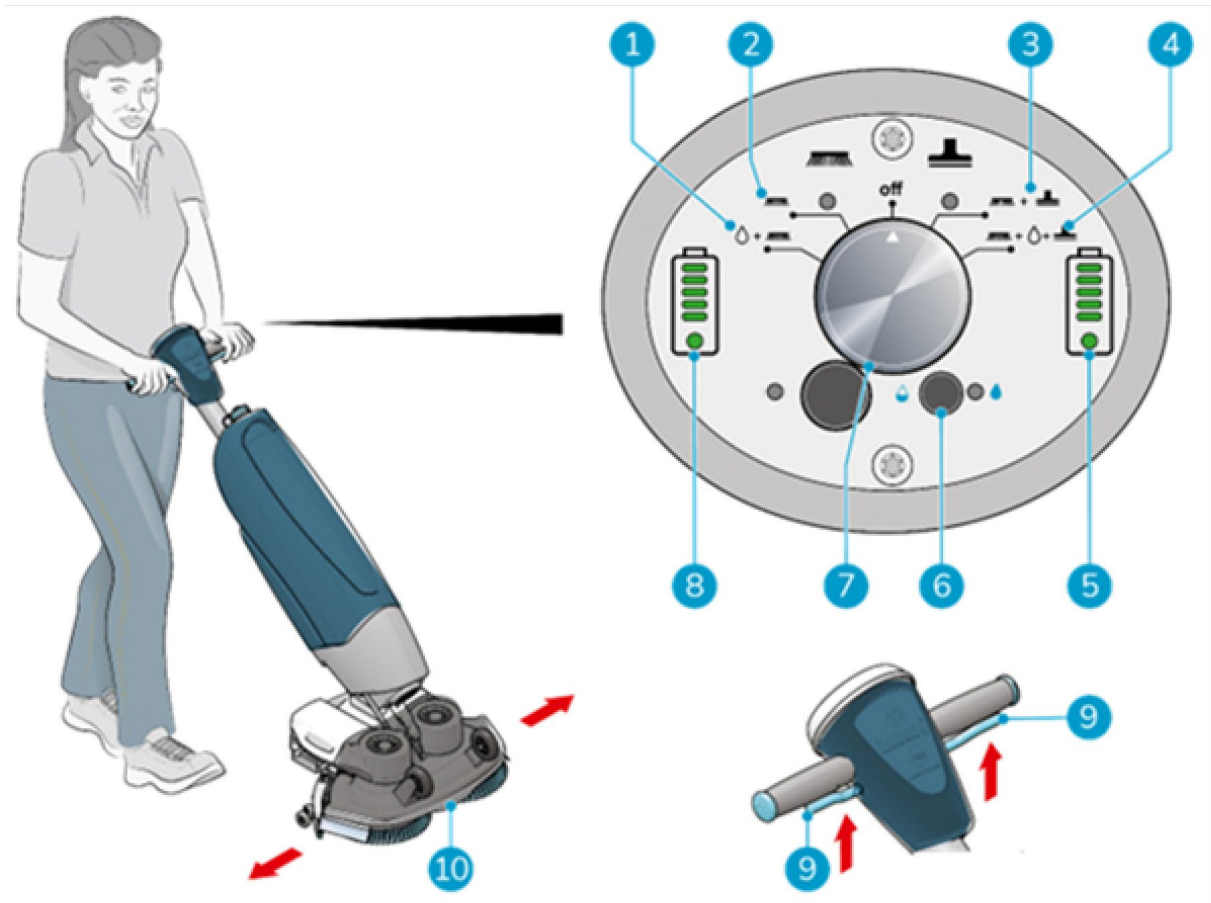

Figure 18
4. Stand behind the i-mop® XL. Select the desired cleaning mode by turning the control knob. (figure 18, pos 7.)
MODE 1: Brush + water/cleaning solution (Figure 18, pos 1).
MODE 2: Brush only (Figure 18, pos 2).
MODE 3: Brush + vacuum (Figure 18, pos 3).
MODE 4: Brush + water/cleaning solution + vacuum (Figure 18, pos 4).
8. Steer by gently turning the handle left or right to move the scrub deck (Figure 18, pos 10).
9. Releasing the trigger (Figure 18, pos 9) will immediately stop the i-mop® XL. The vacuum motor will stop after 3 seconds.